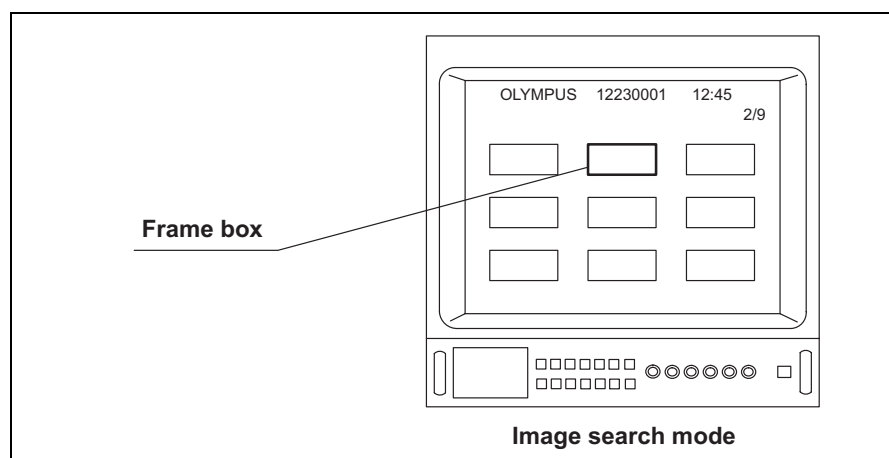

Figure 5.101
4. Depress the menu switches “◀” or “▶”, or the “↑/↓/←/→” key on the keyboard quickly to move the frame box to the desired image (see Figure 5.101).
4. Depress the menu switches “ $\blacktriangleleft$ ” or “ $\blacktriangleright$ ”, or the “ $\uparrow/\downarrow/\leftarrow/\rightarrow$ ” key on the keyboard quickly to move the frame box to the desired image (see Figure 5.101).